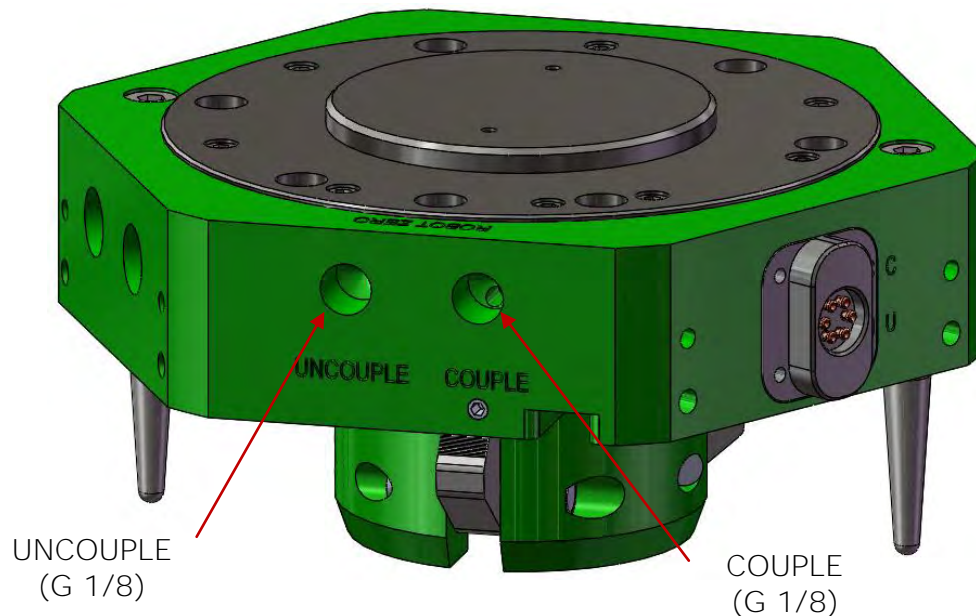

Figure 5.3-1. E100 Robot Adaptor Air Supply Ports
The pneumatic supply for the Epsilon Tool Changer can be supplied via directly ported air fittings supplied by the customer (Figure 5.3-1).
The E100 Tool Changer has eight (8) available user pneumatic ports to supply air through the tool changer to the specific tool being used. The robot side ports can be checked if a poppet valve is installed. For the ports to be operational, the tool changer must be coupled and be fitted with a valve fitting assembly (valve fitting (1506-C99N) and 2 o-rings (83908-P1134) per port). Air can be supplied via directly ported air fittings supplied by the customer (Figure 5.3-1).